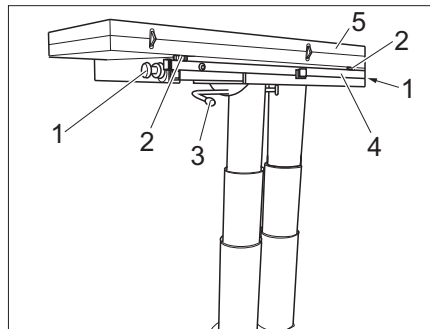

Fig. 110 Increasing the table size
- Loosen knurled screws (Fig. 110,1) on both sides.
- Swivel the catch lever (Fig. 110,3) to the left. The lift-off table is unlocked.
- Pull out the table base (Fig. 110,4).
- Fold out the table half (Fig. 110,5).
- Use the two adjusting screws (Fig. 110,2) to adjust the table-top to the desired height.
- Swivel the catch lever (Fig. 110,3) to the right. The lift-off table is locked.
- Release the locking lever (Fig. 110,3).
- Fold in the table half (Fig. 110,5).
- Screw the two adjusting screws (Fig. 110,2) in.
- Push in the table base (Fig. 110,4).
- Tighten knurled screws (Fig. 110,1) on both sides.
- Swivel the catch lever (Fig. 110,3) to the left. The lock is open.
- Screw the two adjusting screws (Fig. 110,2) in, if necessary.